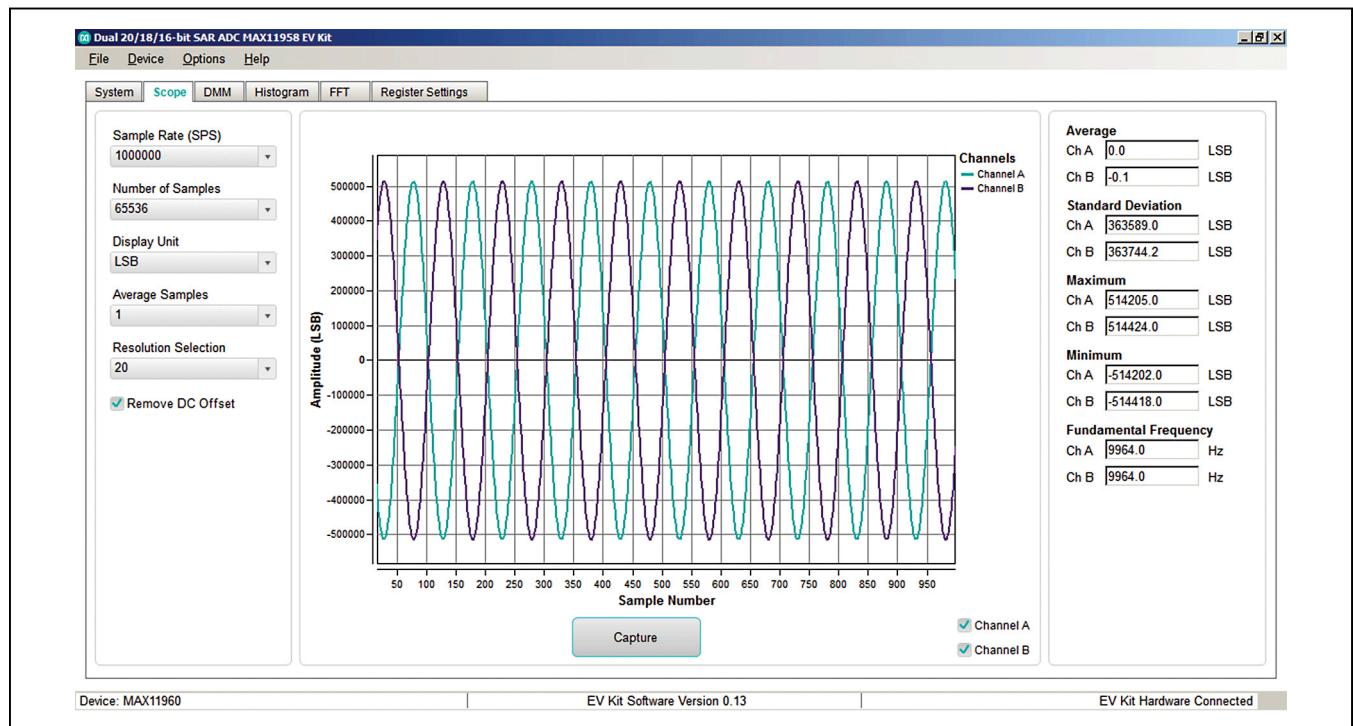

Figure 2. MAX11960 EV Kit Main Window (Scope Tab)
- 16) Click on the **Scope** (Figure 2) or **FFT** (Figure 6) tab sheet and start capturing data by clicking the **Capture** button.
Figure 2 displays data of both ADCs when differential sinusoidal are applied at the inputs on the EV kit.